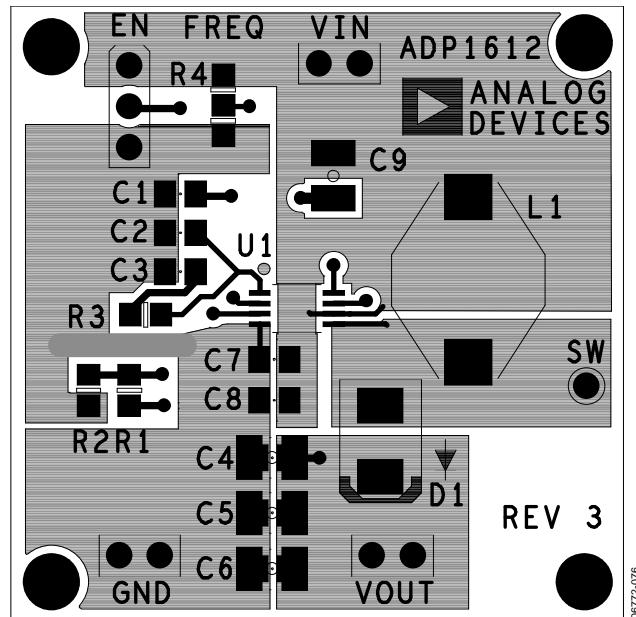

Figure 76. Example Layout for ADP1612/ADP1613 Boost Application
- Keep the low ESR input capacitor, C_{IN} (labeled as C_7 in Figure 76), close to VIN and GND . This minimizes noise injected into the part from board parasitic inductance.
- Keep the high current path from C_{IN} (labeled as C_7 in Figure 76) through the L_1 inductor to SW and GND as short as possible.
- Keep the high current path from VIN through L_1 , the rectifier (D_1) and the output capacitor, C_{OUT} (labeled as C_4 in Figure 76) as short as possible.
- Connect the softstart capacitor, C_{ss} (labeled as C_1 in Figure 76) as close to the device as possible. Connect the ground of the softstart capacitor to an AGND plane that makes a Kelvin connection to the GND pin.